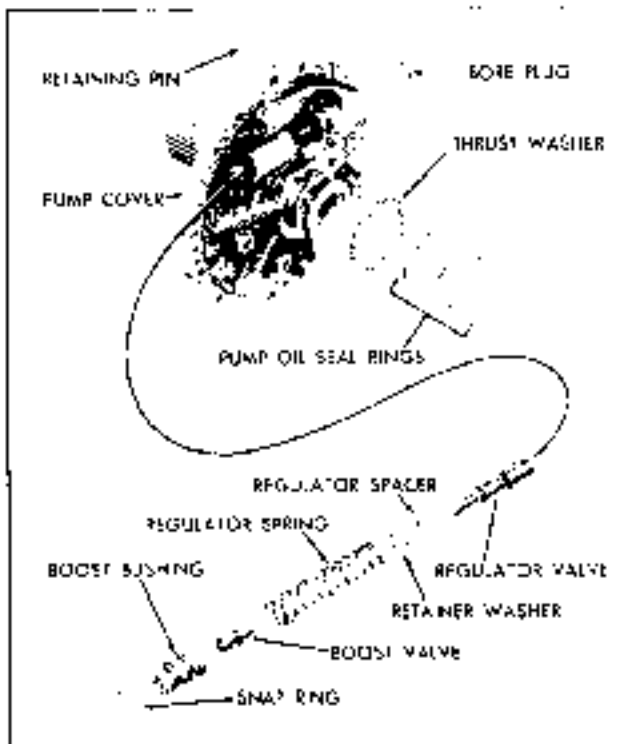

Fig. 7E-69 Exploded View of Pump Cover
8. Remove retaining pin and bore plug from pressure regulator bore (Fig. 7E-72).